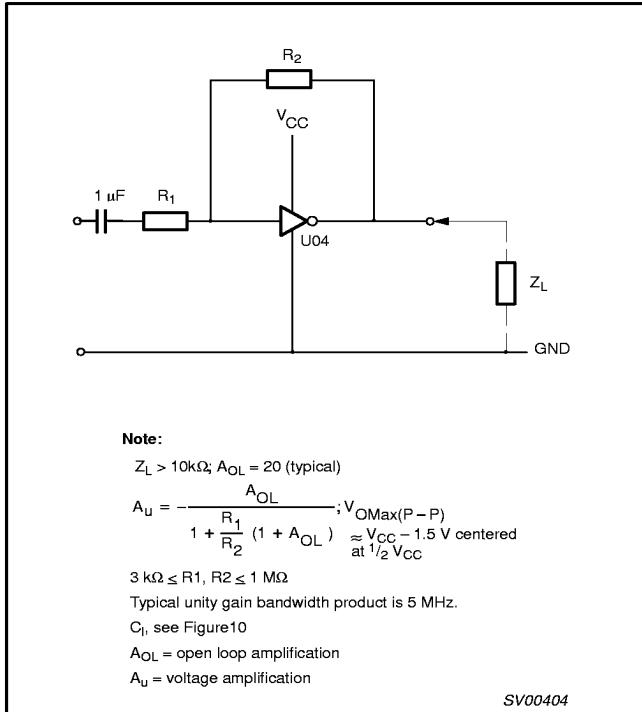

Figure 4. LVCU04 used as a linear amplifier.
- Linear amplifier (see Figure 4)
Note to Figure 4